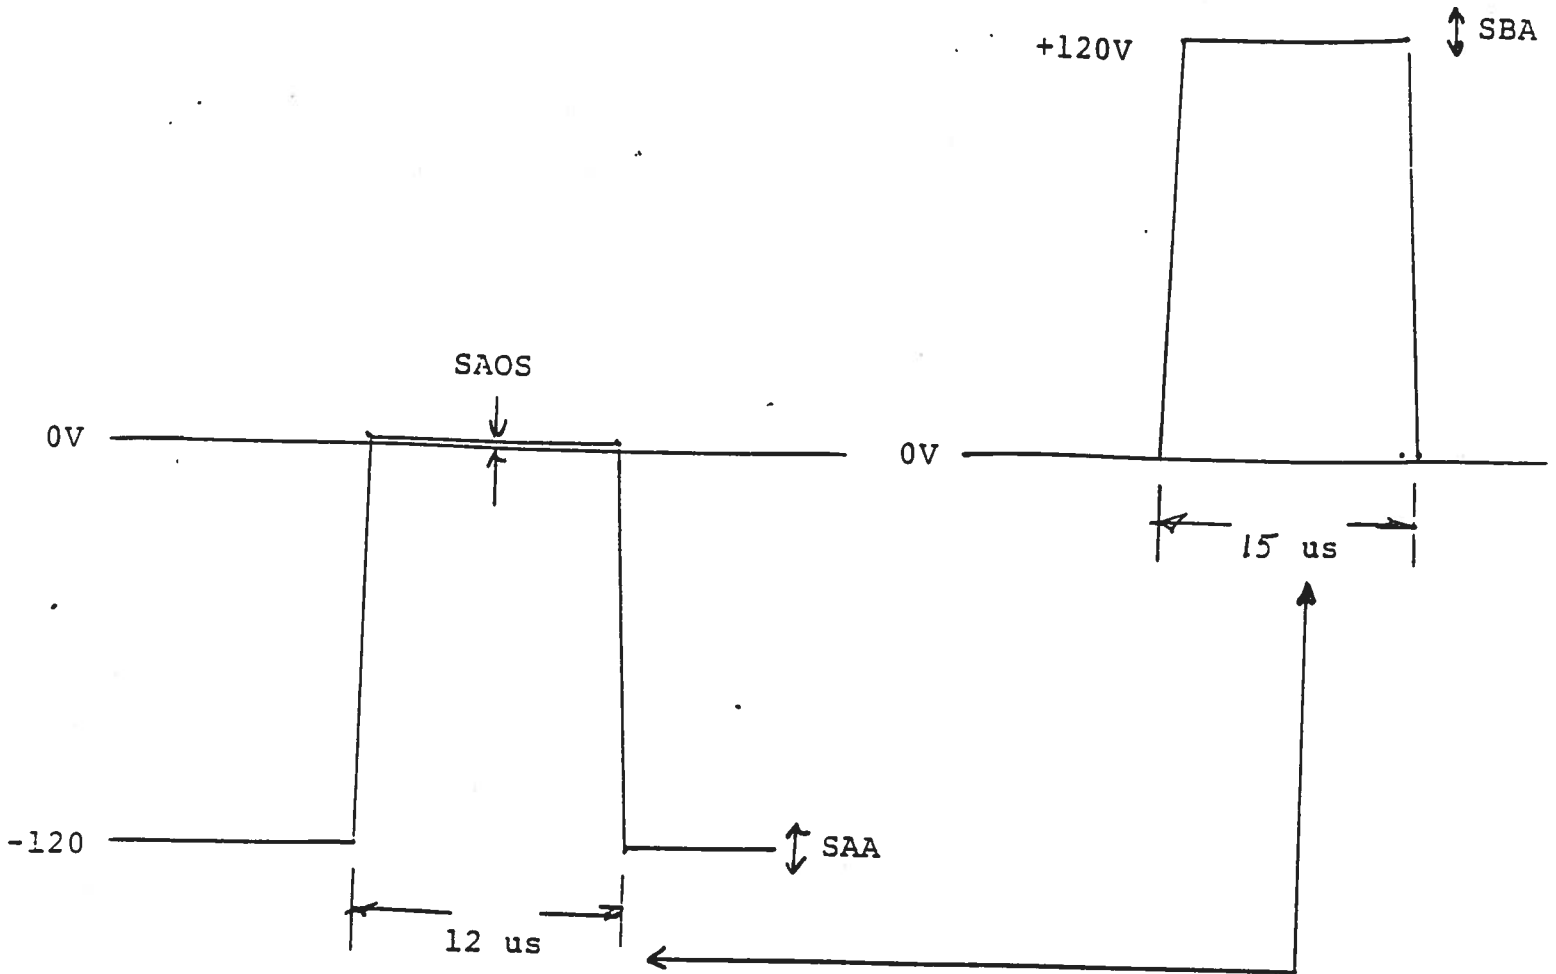

Fig. 5
- 5) With PIN A "LOW" and PIN C "HIGH", the OUT SMA connectors provide the waveforms shown in Fig. 5.
As with the TOF mode, the one turn SAA, SAOS or SBA locking pots (see Fig. 4) are provided in the interior of the instrument to achieve the amplitude adjustments shown in Fig. 5.
- 1) The OPERATE-SET-UP switch should be in the SET-UP position. With PIN A "HIGH" and PIN C "HIGH" the A OUT oscillates from the SAOS level (see Fig. 5) to -15 Volts at a 1 Hz rate. This function is controlled by an astable driver relay (which "clicks" at the 1 Hz rate).
- (3) OPERATE-SET-UP Switch. To obtain the TOF or SALI outputs, this switch must be in the OPERATE position. For the SET-UP mode, the switch must be in the SET-UP position. With PIN A "HIGH" and PIN C "HIGH", the A OUT oscillates from the SAOS level (see Fig. 5) to -15 Volts at a 1 Hz rate. This function is controlled by an astable driver relay (which "clicks" at the 1 Hz rate).